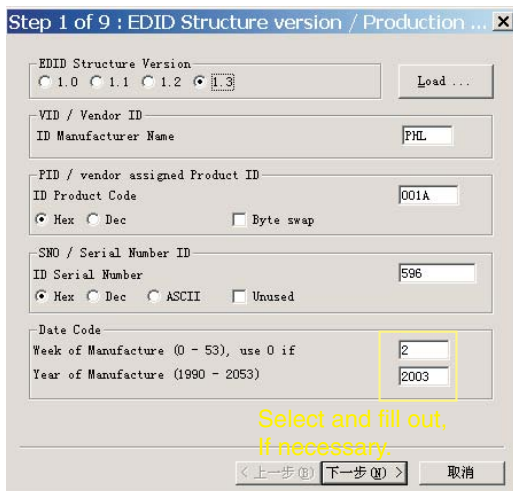

Fig. 13
1. Click  (new function) icon from the tool bar, bring up Step 1 of 9 as shown in Fig. 13.